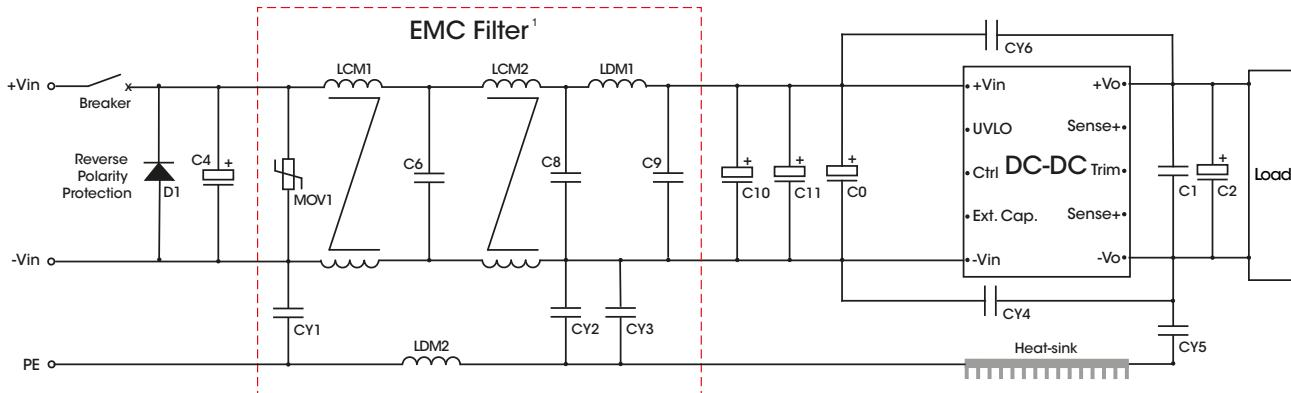

Figure 9. Recommended EMC Filtering
RE CISPR16-2-3 30 MHz – 230 MHz ; 40 dBuV/m at 10 m (see Fig. 9 for recommended circuit) 230 MHz – 6 GHz; 47 dBuV/m at 10 m (see Fig. 9 for recommended circuit)	CLASS A
Surge EN 61000-4-5 Line to line ±1 kV (42 Ω, 0.5 μF), line to ground ± 2 kV (42 Ω, 0.5 μF) (see Fig. 9 for recommended circuit) Line to line ±1 kV (2 Ω, 18 μF) line to ground ± 2kV (12 Ω, 9 μF) (see Fig. 9 for recommended circuit)	perf. Criteria A
RE CISPR16-2-3 30 MHz – 230 MHz; 40 dBuV/m at 10 m (see Fig. 9 for recommended circuit) 230 MHz – 1 GHz; 47 dBuV/m at 10 m (see Fig. 9 for recommended circuit)	CLASS A
Surge IEC 61000-4-5 Line to line ±2 kV (2 Ω, 18 μF); line to ground ± 2 kV (2 Ω, 18 μF) (see Fig. 9 for recommended circuit)	perf. Criteria A
- EMC Filter will be provided in a modular form, here is a recommended circuit and parameters, as shown in Fig. 9. Users can also build it themselves.